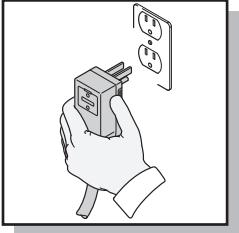

Fig. 15
- Unwind the power cord completely and plug the GFCI into a grounded 120 volt outlet. Press the ‘reset’ button on the GFCI box (Fig. 15). The indicator window should show a red color. This must be done each time the unit is plugged in.